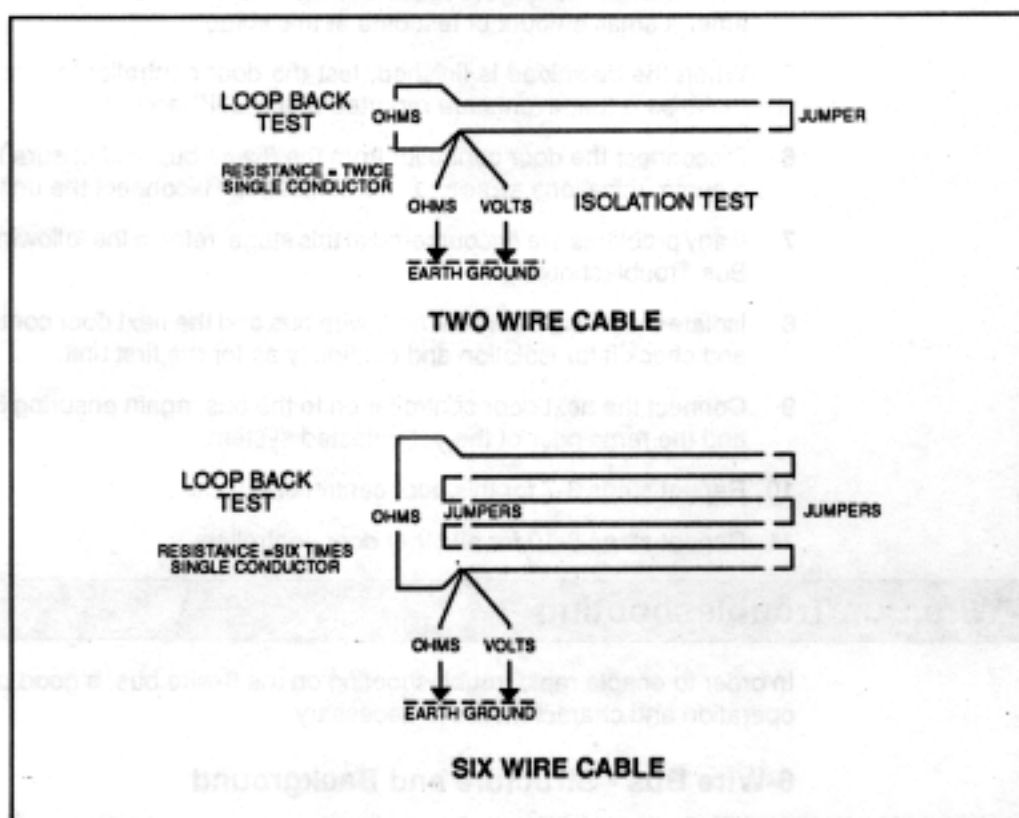

Figure 7: Loop Back Testing of Multi-wire Cable
- All wiring runs should also be checked for continuity by looping back and measuring the loop resistance, using the 1K Ohm range on the test meter. An example of loop back testing of multi-wire cables is shown in Figure 7.